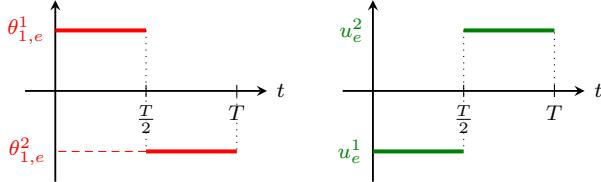

Figure 2: Example of a possible desired transition for one of the angles of the robot.
*Hint:* define two long constant parts between the two equilibria with a transition in between. Try to keep everything as symmetric as possible, see, e.g., Figure 2.